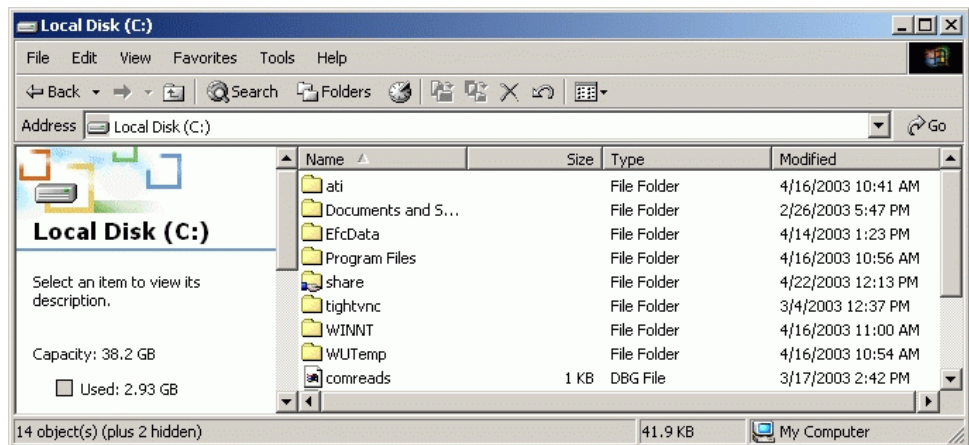

Figure D-28 Local Disk (C:) Window
5. Double-click the *Local Disk (C:)* icon. The *Local Disk (C:)* window displays (Figure D-28).